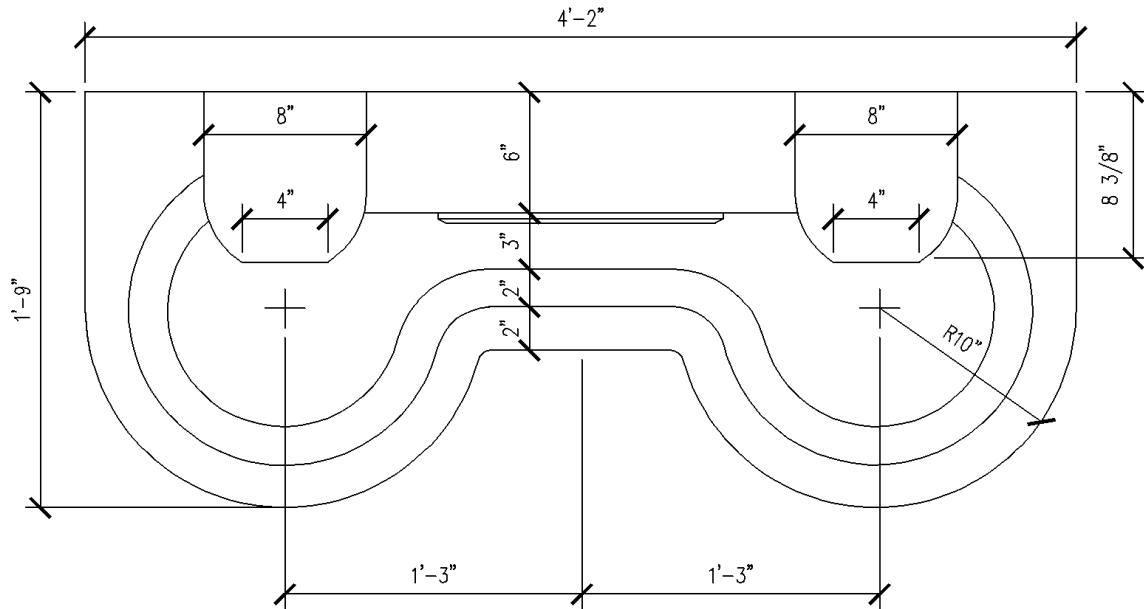

FIGURE 4-1.5 Draw this lavatory system in a new drawing file with origin centered on the back side
12. In a new drawing, draw the *Lavatory System* shown in **Figure 4-1.5**; make sure the origin is at the back and centered.